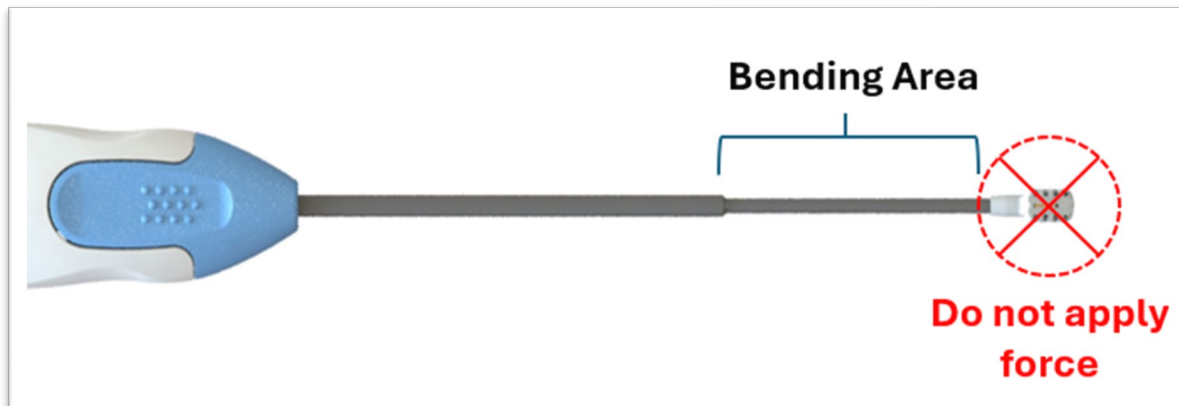

Figure 4: Bending Location
13. The RhinAer+ Stylus may be bent within 2 inches of the distal end in the bendable area, if necessary, to access the target treatment area. (see **Figure 4**)